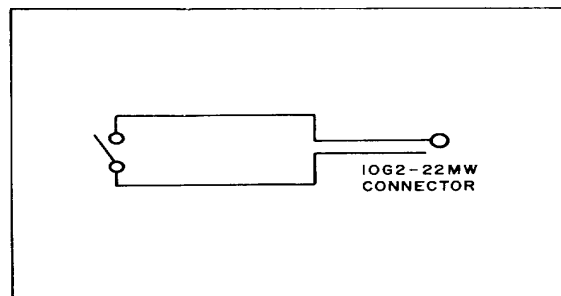

Figure 2-9. Remote Marker Circuit Diagram
2-55. The marker may be operated from a remote location or from the recorder front panel. To operate the marker from a remote location, construct the circuit shown in Figure 2-9. The connector 10G2-22MW is supplied as an accessory with the system. Any length of cable may be used.
2-58. To operate the auxiliary marker, available as 7702A Option 15, construct a switch circuit as shown in Figure 2-9. Plug the switch into the auxiliary marker Jack J14, located on the rear panel of the recorder.
a. Press the MARKER pushbutton. A mark will be recorded on the lower edge of the chart. To check remote marker operation, connect the circuit shown in Figure 2-9 to J15.
- 4 Connect the switch circuit shown in Figure 2-9 to J15 on the recorder rear panel. Press the remote mark switch to record a reference mark on the lower edge of the Permapaper.
- 5 For systems with an auxiliary marker (Option 15), connect the switch circuit of Figure 2-9 to J14. Press the auxiliary marker switch to record a reference mark between channels on the Permapaper.